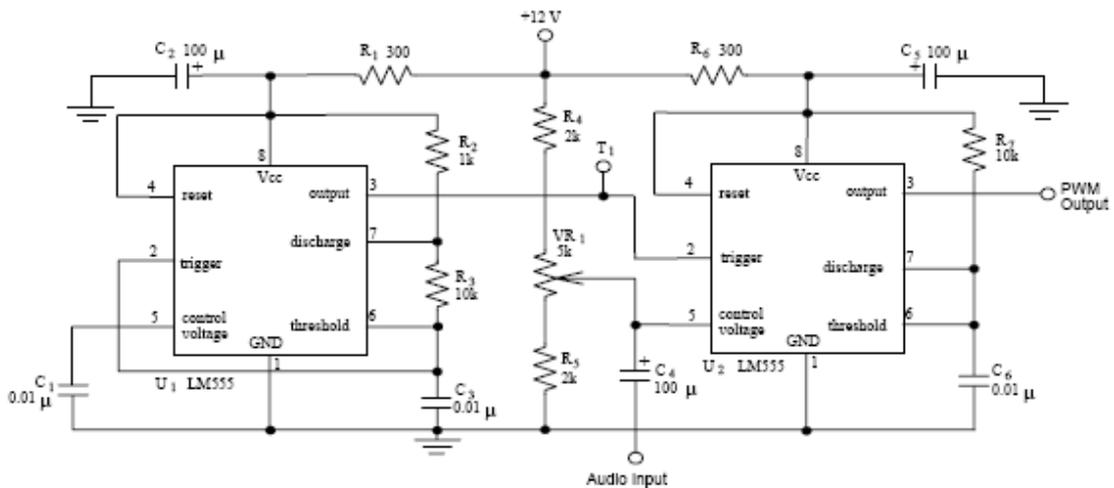

Fig. 8-7 Pulse width modulator
Fig. 8.7 shows a pulse-width modulator using two LM555 timers. In this circuit the U_1 and U_2 perform the astable and monostable multivibrators, respectively. Combining these two sections, the pulse width modulator is completed. The trigger clock of monostable multivibrator (U_2) comes from the output (pin 3) of astable multivibrator (U_1). The audio signal is connected to the U_2 control voltage input (pin 5) and the PWM signal appears at the output (pin 3).
2. If the C_6 value in Fig 8.7 is changed to $0.1 \mu F$, is the output still a PWM waveform? Explain.